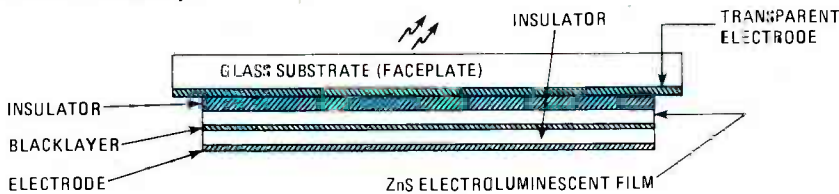

FIG. 5—THIN-FILM ELECTROLUMINESCENT elements emits light when voltage is applied to ZnS film. Black layer beneath film increases contrast.
**Electroluminescence:** As the name implies, this method uses a voltage to excite phosphor chemical-mixtures to emit visible light. The principle dates back to the 1930’s, when the mixture used was in powder form. That tended to lose its luminance too soon to be considered for long-life display applications. Instead, activity has focused on what is known as thin-film electroluminescence. Here, a phosphor film—commonly zinc sulphide (ZnS) doped with manganese—is deposited on one insulating layer in a method similar to semiconductor manufacturing (see Fig. 5). The search is on for thin-film phosphor mixtures which emit light of multiple colors efficiently for full-color video.